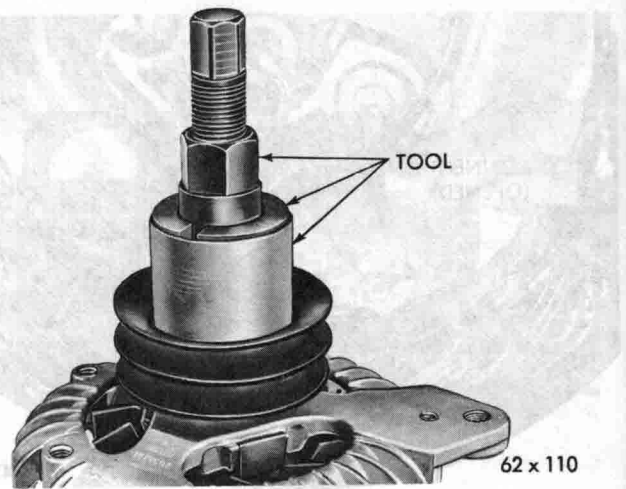

Fig. 42—Removing Pulley (Typical)
(4) The pulley is an interference fit on the rotor shaft. Remove the pulley with puller Tool C-3615 and special adapters SP-3002 (Fig. 42).